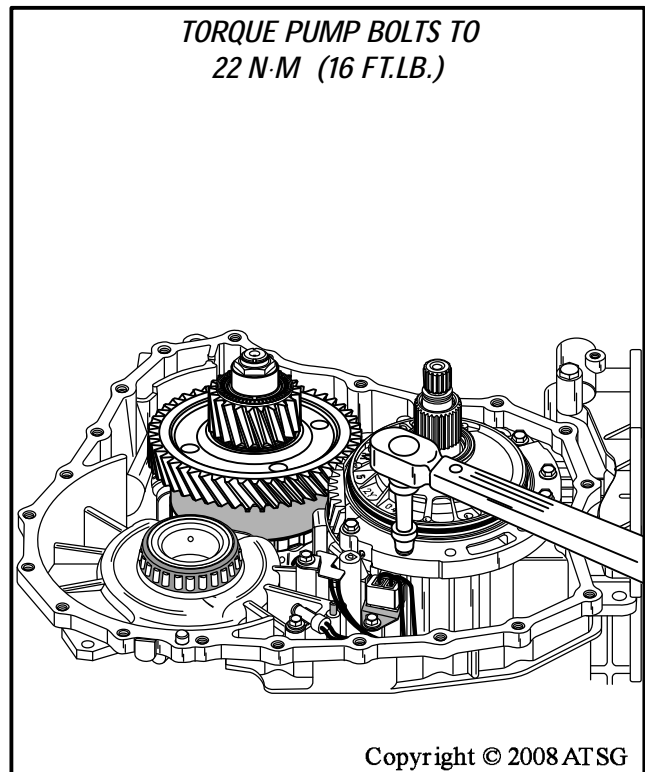

Figure 223
30. Torque the five oil pump to case bolts to; 22 N·m (16 ft.lb.), as shown in Figure 223.